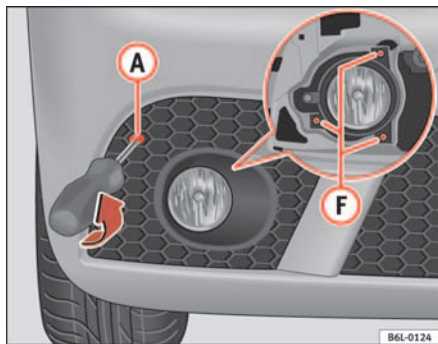

Fig. 158 Fog lights
- Remove the grille, taking out the bolt (A) ⇒ fig. 158, carefully pull the grille on the side of the screw and release the cover.
- Undo the two fastening bolts (F) ⇒ fig. 158 and when released unplug the connector.